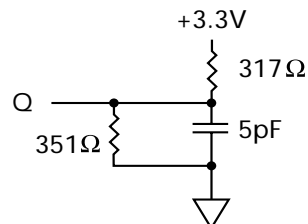

Figure 2
4. The load used for VOH, VOL testing is shown in Figure 2. AC load current is higher than the stated DC values. AC I/O curves are available upon request.
3. This parameter is measured with output loading shown in Figure 2.